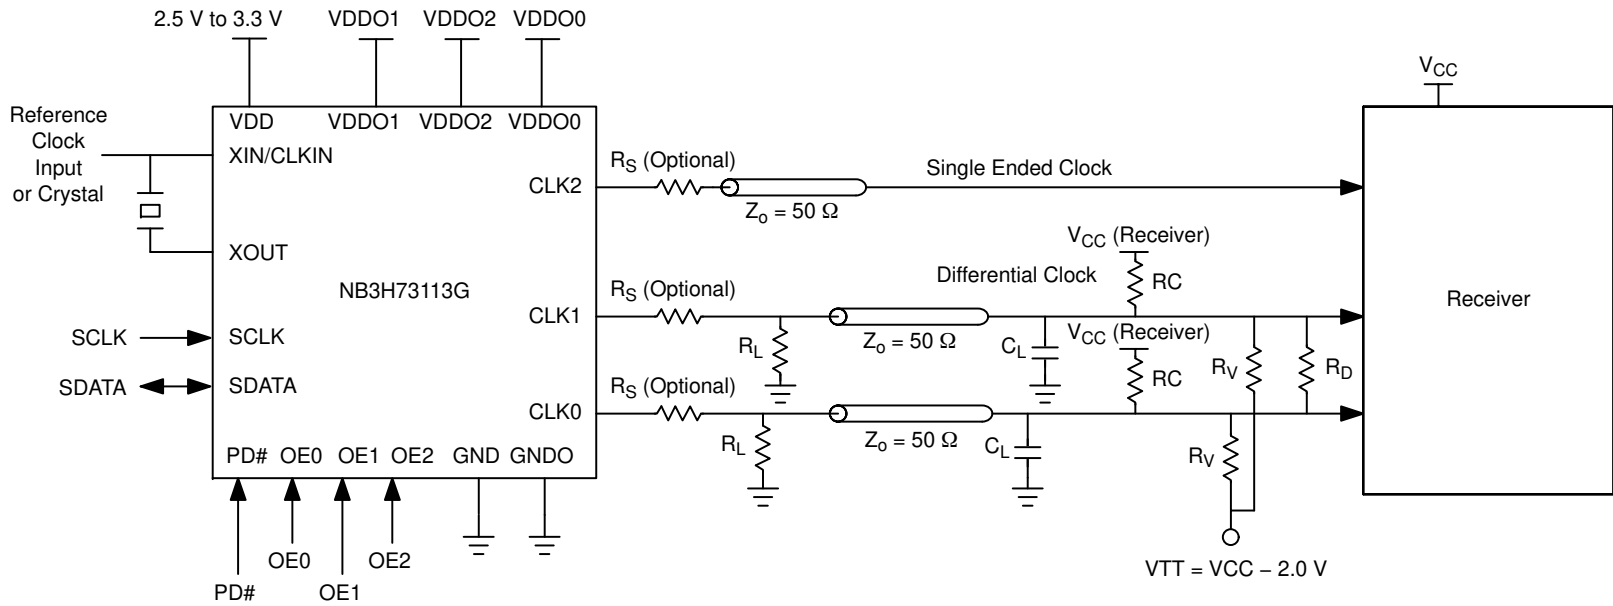

Figure 6. Typical Termination for Single Ended and Differential Signaling Device Load
- Measurement taken with single ended clock outputs terminated with test load capacitance of 5 pF and 15 pF and differential clock terminated with test load of 2 pF. See Figures 6, 7 and 12. Specifications for LVTTTL are valid for  $V_{DD}$  and  $V_{DDO}$  3.3 V only.
20. Measurement taken from single ended clock terminated with test load capacitance of 5 pF and 15 pF and differential clock terminated with test load of 2 pF. See Figures 6, 7 and 12.